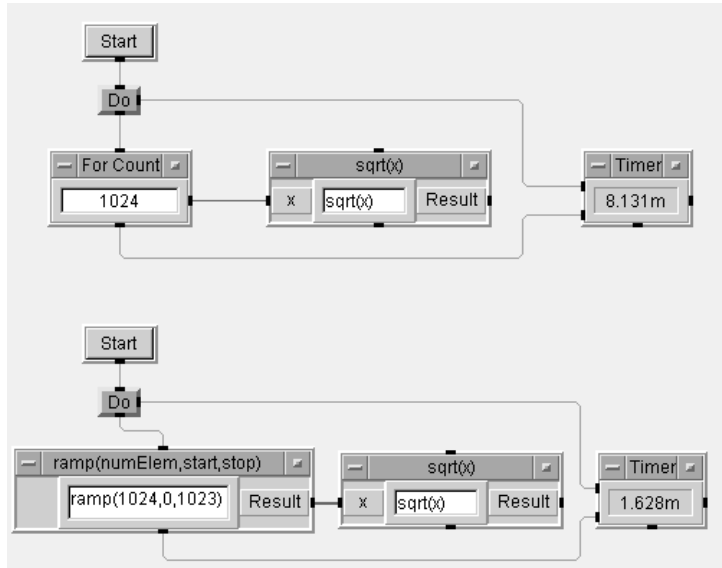

Figure 18.2. Math array examples
- Perform math on arrays whenever possible. See Figure 18.2.